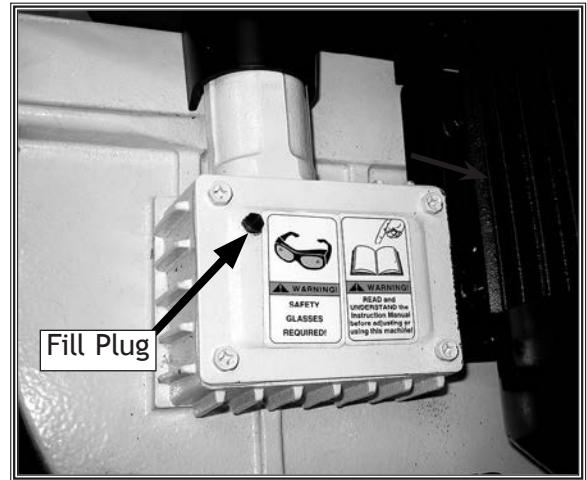

Figure 44. Gear box.
- **Gear Box:** With the headstock in the down position, wipe all dirt and metal from the fill plug, remove it, and check or add 80W-90W gear oil (see **Figure 44**). Change the oil every six months under heavy use; otherwise, change it annually.